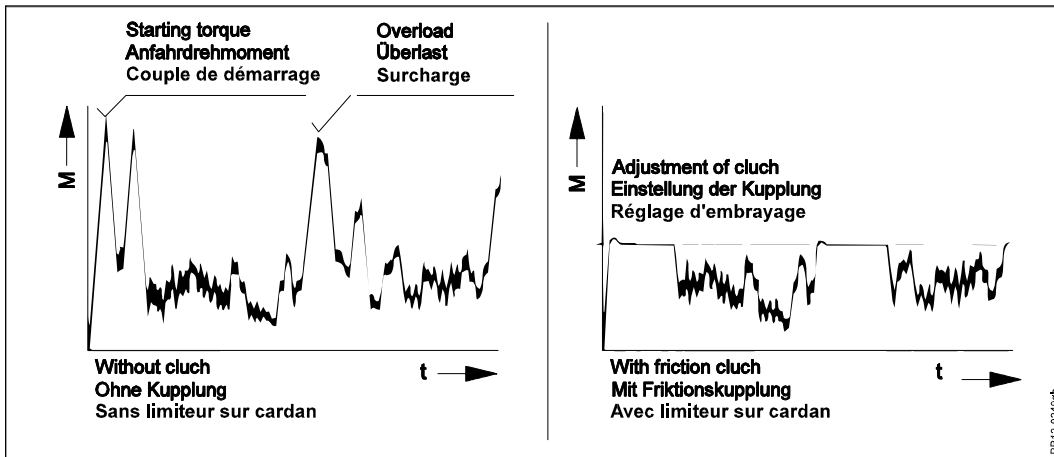

Fig. 5-2
**Fig. 5-2** The figure illustrates how the clutch protects the transmission against high torque peaks and at the same time is capable of transmitting the torque while it is in function (slips).